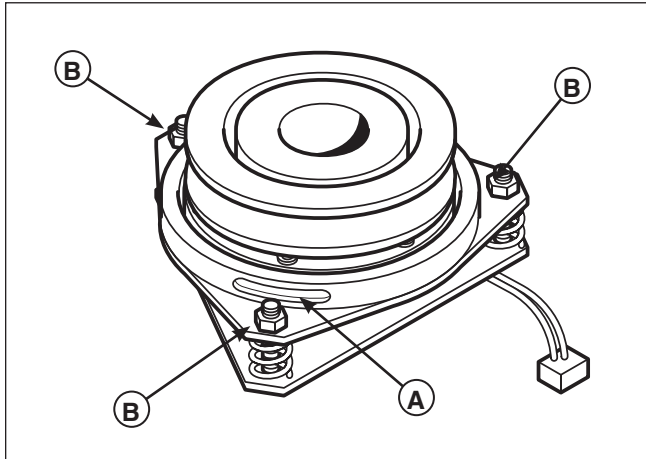

Figure 36. PTO Clutch Adjustment
3. Insert a .016"-.018" (0,40-0,45mm) feeler gauge (C) through each window, positioning the gauge between the rotor face and the armature face as shown in Figure 36.